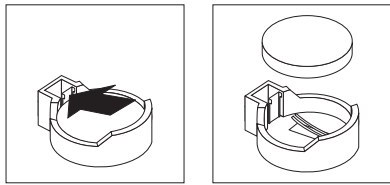

Figure 27. Removing the battery
- a. Use a fingernail to press the top of the battery clip away from the battery (see Figure 27). The battery pops up when released.